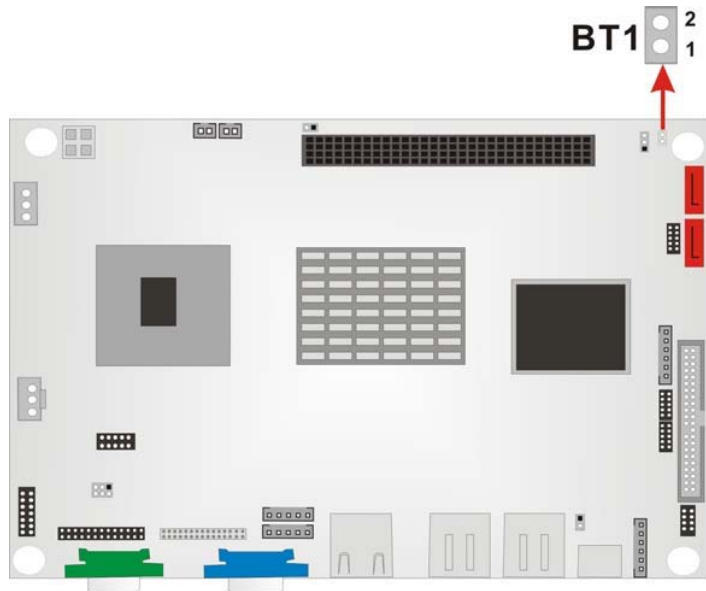

Figure 3-7: Battery Connector Location
- CN Location:** See Figure 3-7